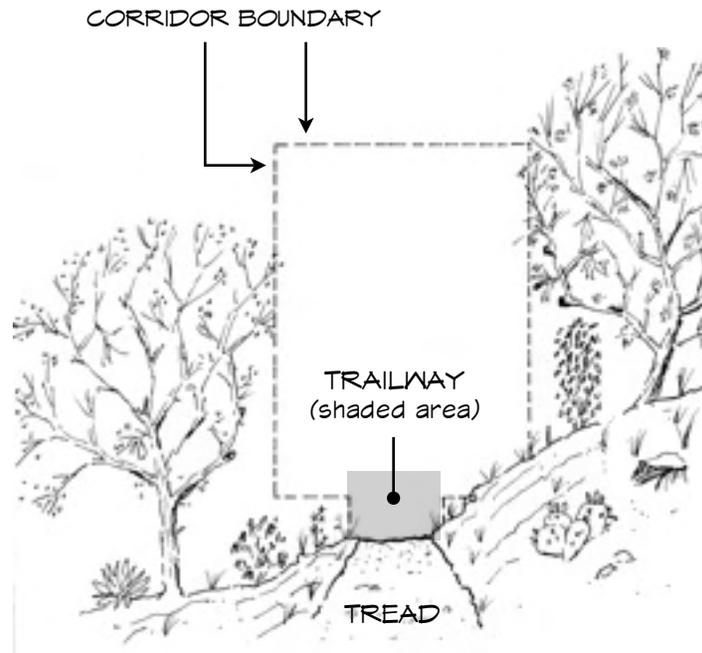

FIGURE 1. Trail Corridor, with trailway and tread
- Figure 1. Trail Corridor 7
Figure 1 illustrates the trail *corridor* with the *trailway* and the *tread* lying at the midpoint. The tread is the actual travel surface. The trailway straddles and extends six to twelve inches to either side of the tread. The corridor is the full width and height, starting about eighteen inches above grade, needed to accommodate all intended trail users.